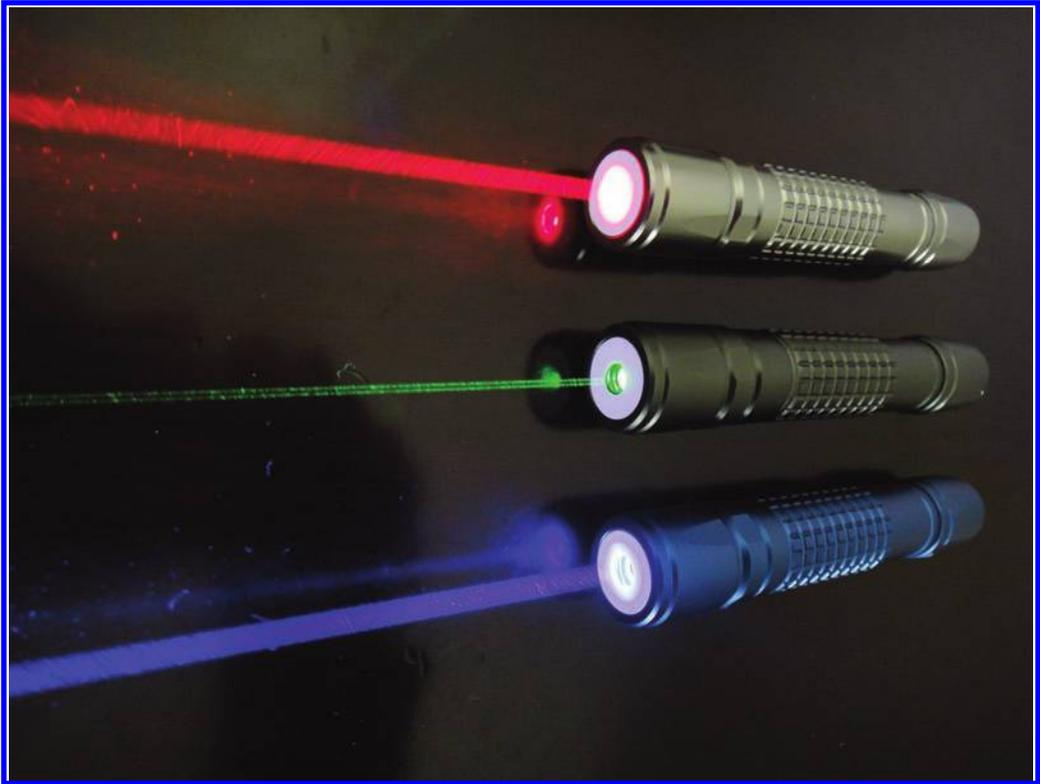

FIGURE 12.46
Consider the ubiquitous laser pointer (Figure 12.46). Lasers (see the ^aGeek Trivia: Who Coined The Acronym LASER? sidebar) are used in virtually all fields of science and engineering, examples of which include: (1) spectroscopy (analyzing the composition of an object based on the light it emits/absorbs), (2) ranging and targeting (determining distance and setting direction of objects), (3) materials processing (yep, lasers play a prominent role in semiconductor fab), (4) nuclear fusion, (5) medical imaging and instrumentation, (6) industrial cutting and welding, (7) radar, and (8) long-haul optical communications [11].